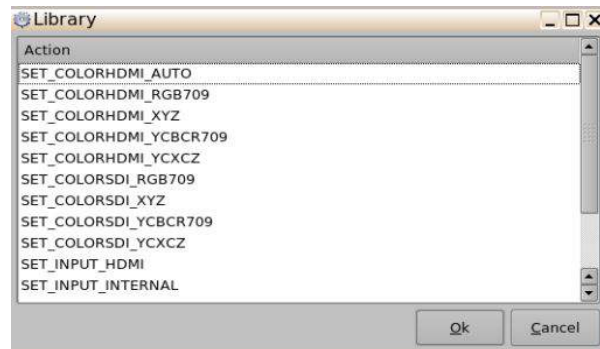

Figure 22: Library Action Window - Certainty
- The user can select the actions to manage Certainty products on the Library window (Figure 22).